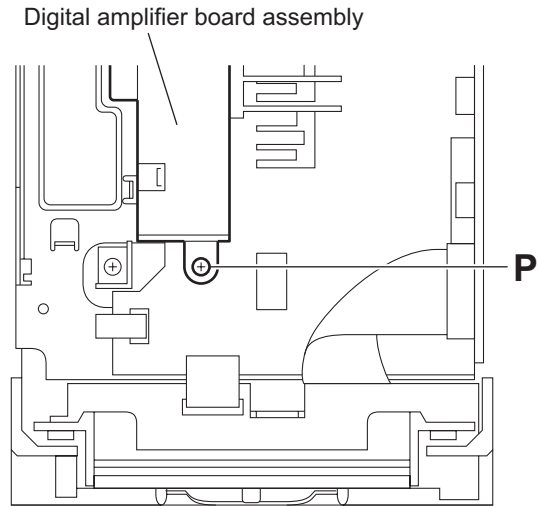

Fig.15
3.1.7 Removing the digital amplifier board assembly (See Figs.15 and 16)
- From the top side of the main body, remove the screw **P** attaching the digital amplifier board assembly. (See Fig.15.)